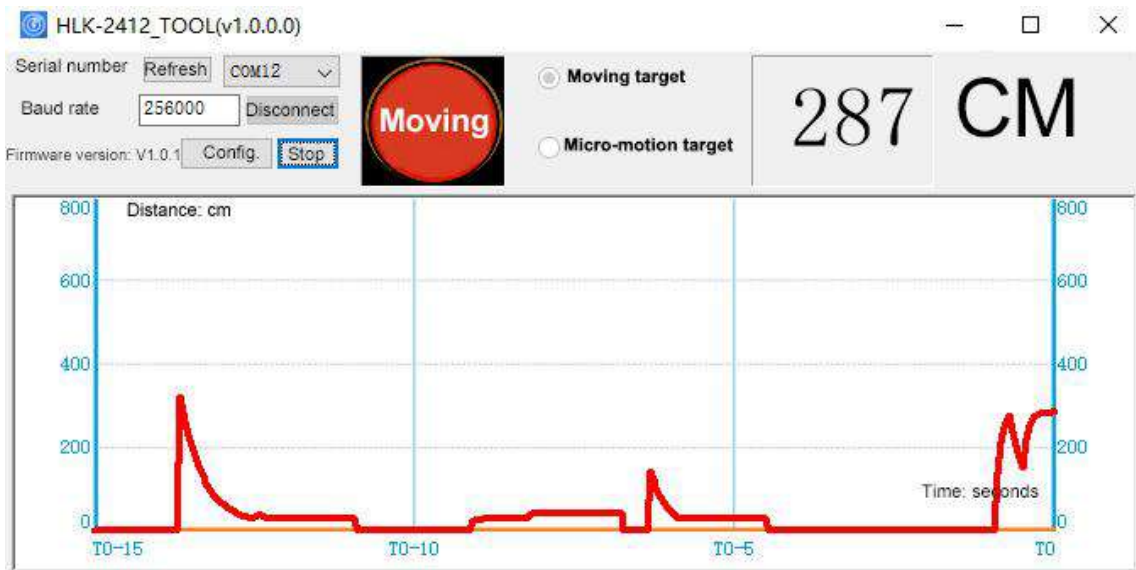

Figure 5 Upper computer 3
Step 3: Click the "Start" button on the main interface to receive real-time data from the radar terminal, as shown in Figure 5. The upper computer interface displays the distance and status of the detected target, and displays the distance curve between the target human body and the radar model within the last 15s at the bottom.